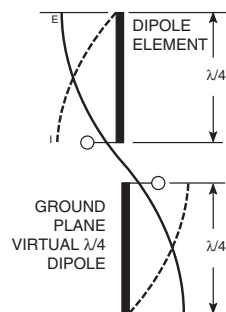

Figure 33: Dipole Antenna
4. In many antenna designs, particularly  $\frac{1}{4}$ -wave whips, the ground plane acts as a counterpoise, forming, in essence, a  $\frac{1}{2}$ -wave dipole (Figure 33). For this reason, adequate ground plane area is essential. The ground plane can be a metal case or ground-fill areas on a circuit board. Ideally, it should have a surface area less than or equal to the overall length of the  $\frac{1}{4}$ -wave radiating element. This is often not practical due to size and configuration constraints. In these instances, a designer must make the best use of the area available to create as much ground